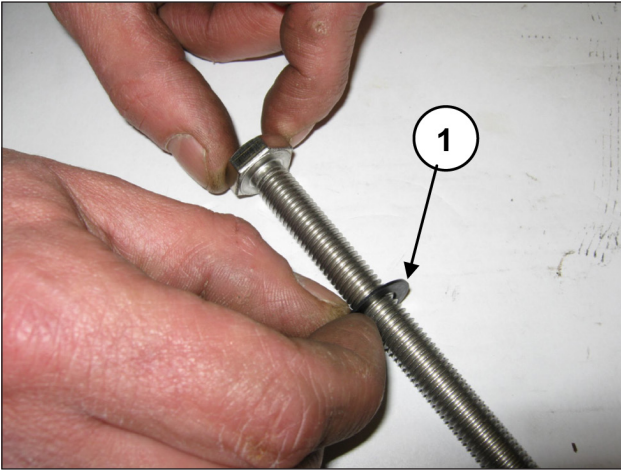

Fig. 156
Insert the $\text{\O}10 \times 18 \times 0.9$ washer in the piston fixing screw (pos. ①, Fig. 156).